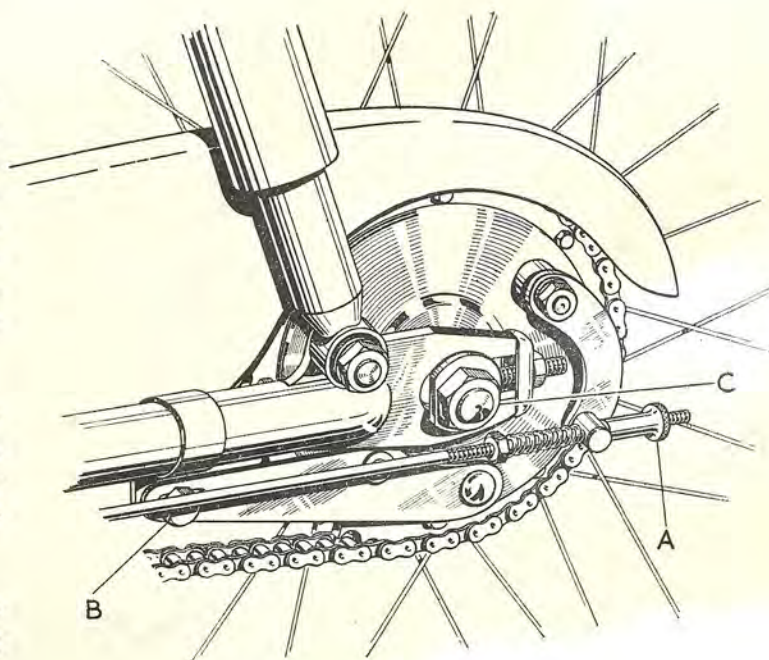

Fig. D31.
Take off the brake rod adjusting nut (A) Fig. D31 and remove the torque arm bolt (B). Disconnect the speedometer cable by unscrewing the union nut at the end of the cable. The inner cable can then be lifted out of the gearbox drive.
Unscrew the spindle nuts (C) Fig. D31 and pull the wheel out of the fork ends, at the same time freeing the brake rod from the swivel pin on the lever. Tilt the machine over slightly towards the left-hand side and remove the wheel from the right-hand side.